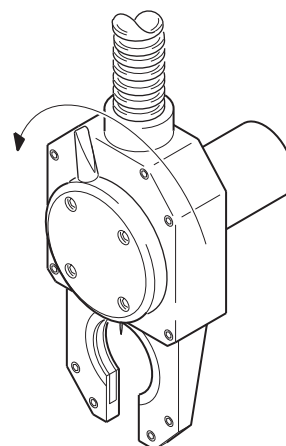

Figure 24 Releasing the Locking Lever
1. Rotate the locking lever on the weld head counter-clockwise until it stops. See Figure 24.